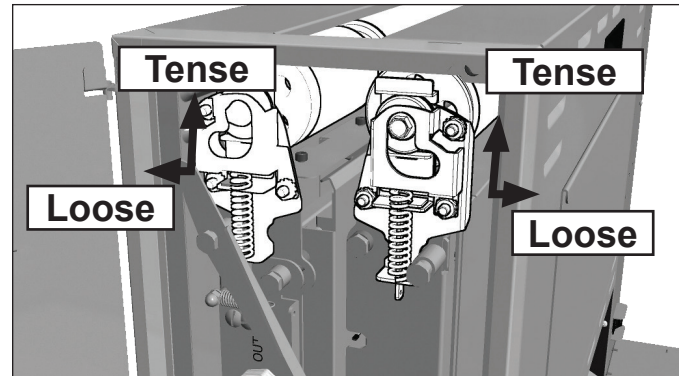

Figure 7. Conveyor Rollers
7. To lock the front Conveyor Roller, face the front of the toaster. Use both hands and push down on the Front Conveyor Roller and pull towards you. This removes tension and locks the roller in place (Figure 7).
8. To lock the Rear Roller, face the rear of the toaster. Use both hands and push down on the Rear Conveyor Roller and pull towards you. This removes tension and locks the roller in place (Figure 7).